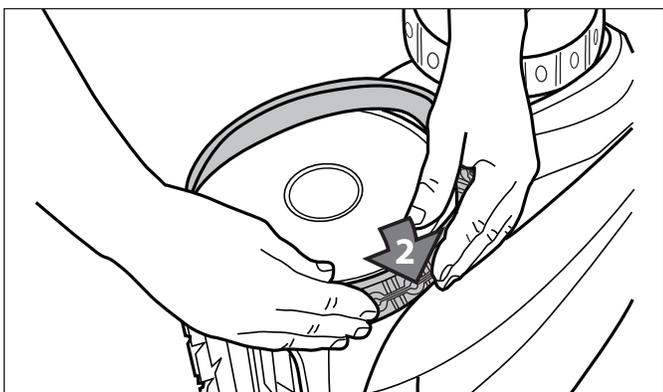

Figure 38. Start on One Side of the Tire
- Push one side of the tire on to the wheel and fit the rib of the tire in the groove of the wheel as shown in Figure 38.